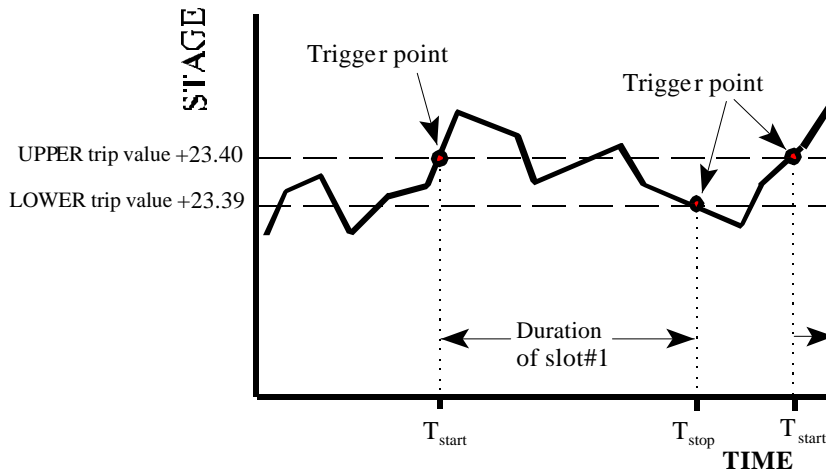

Fig. 1 Implementation of UPPER and LOWER trip values.
The columns entitled **UPPER** and **LOWER Trip Value** are used to define the values at which the alarms are to be activated (see Figure 1 below) whereas those entitled **Actions** are used to define what is to take place when either trip value is surpassed.
The terms *UPPER* and *LOWER Trip Value* require further explanation. These two values are, in fact, the same alarm point but are implemented to account for hysteresis as depicted in Figure 1, where the exact trigger points are shown for the alarm configured in the *Alarm Setup Table* above. Given that the alarm is setup to be activated by the stage (HG) of slot#0, the following can be noted with respect to Figure 1: